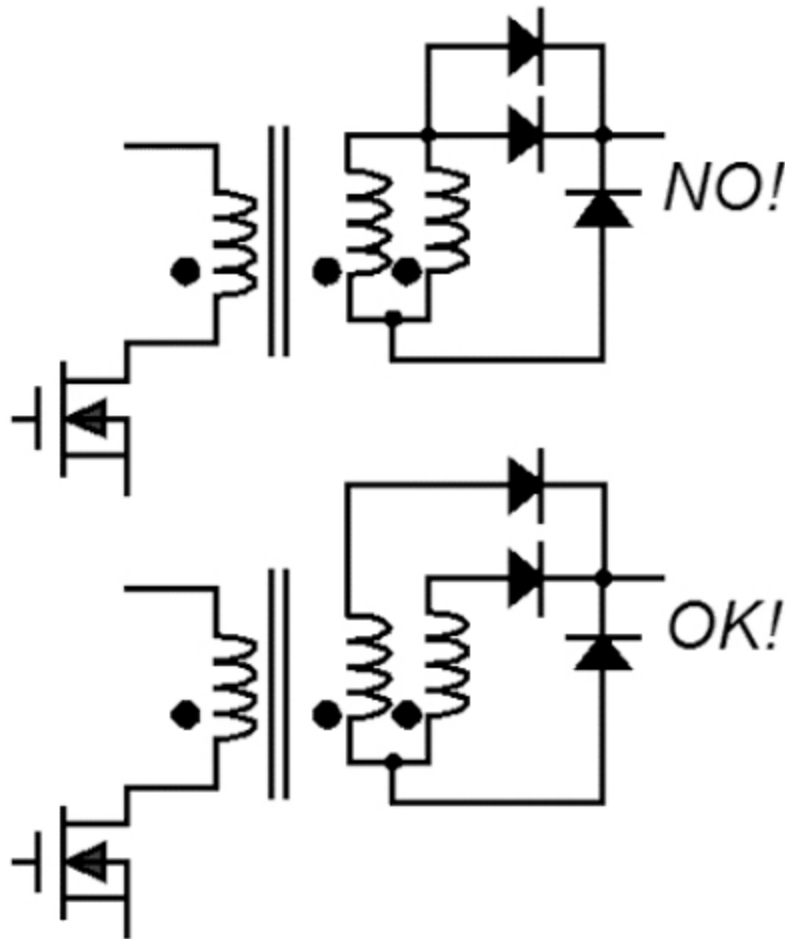

Figure 2: Alternative Ways of Paralleling Secondary Windings
- A comment about split/sandwich windings. We often split windings for various reasons. In general series splitting works fine. Putting windings in parallel is not always a good idea. For example, if the Secondary winding is split in parallel to increase its current handling capability, since the two windings are usually physically apart on either side of the Primary winding, they are actually magnetically slightly different. This can lead to a lot of ringing on the output and can also affect the EMI spectrum. If this paralleling is really needed, it is better to use them as shown in Figure 2. Here the diode forward drops help to 'ballast' the windings and thus they 'iron out' any inequality between the two halves.